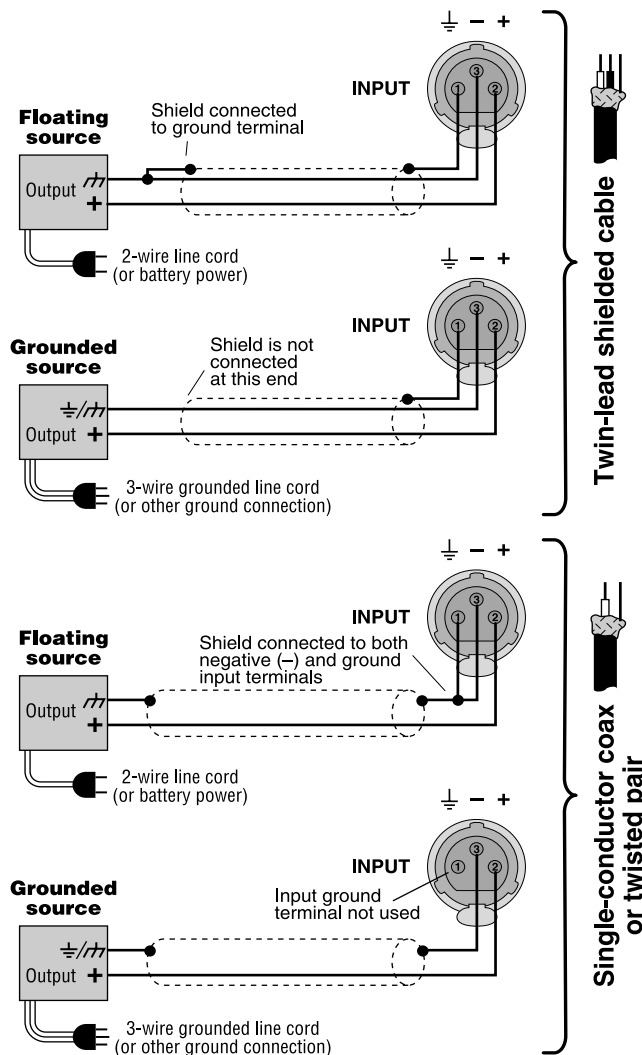
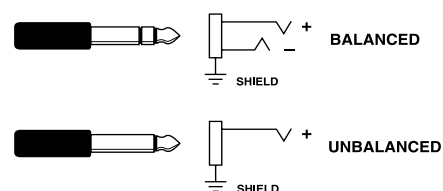

Fig. 3.7 Unbalanced Input Wiring
Fig. 3.9 Balanced and Unbalanced Phone Plugs
Both the balanced XLR and phone jack inputs have a nominal impedance of 20 k ohms (10 K ohms with unbalanced wiring) and will accept the line-level output of most devices. Female XLR input connectors are provided on the standard P.I.P.-FX input module (other PIP modules are described in Section 8.1). Correct input wiring will depend on two factors: (1) whether the input signals are balanced or unbalanced, and (2) whether the signal source floats or has a ground reference. Figures 3.7 and 3.8 show the recommended connection techniques for each type of signal source.
positive (+), the ring is negative (–) and the sleeve is ground (see Figure 3.9). Wiring for various sources follows the XLR wiring guidelines shown in Figures 3.7 and 3.8.